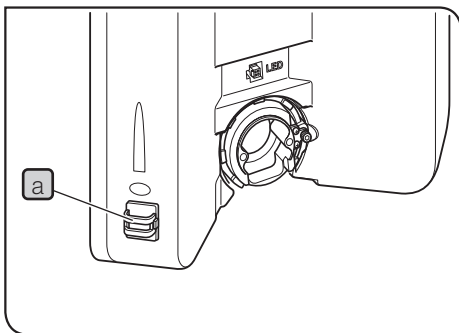

Fig.35
### 2 Attaching the halogen lamp socket (Figs.35 to 37)
Installing the U-LS30ADP LS30 adapter (Fig.35)
- 4 Pass the lamp cable through the cable holder **a**. (Fig.35)